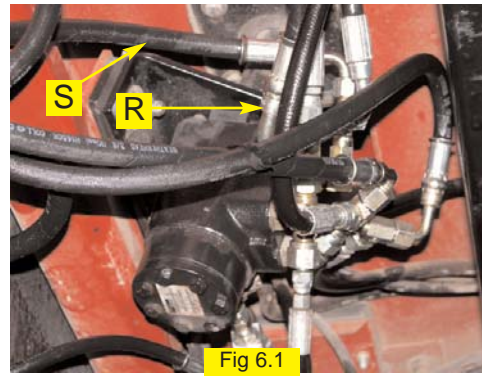

Fig 6.1
Install the pressure hose (R) between the branch of the run-tee on the steering orbital P port and corresponding P port of the hydraulic control block. (Figure 6.1 and 6.2)
Install the tank hose (S) between the end of the run-tee on the steering orbital T port and corresponding T port of the hydraulic control block. (Figure 6.1 and 6.2)